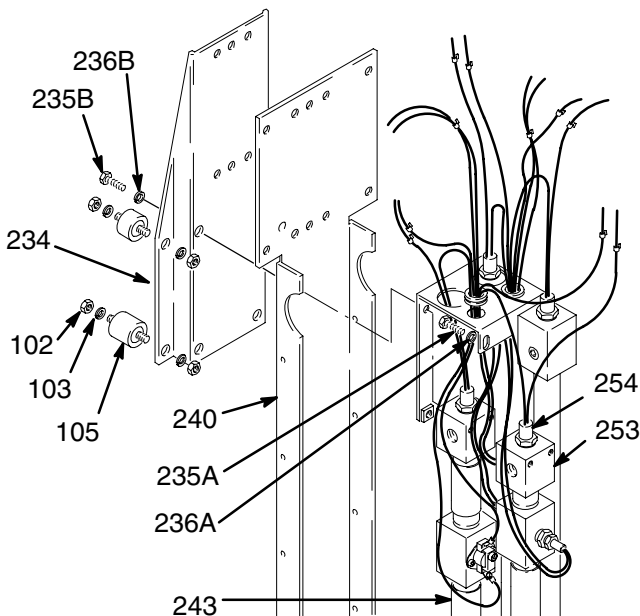
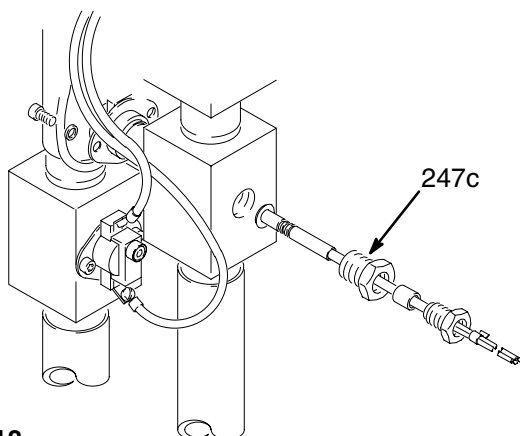
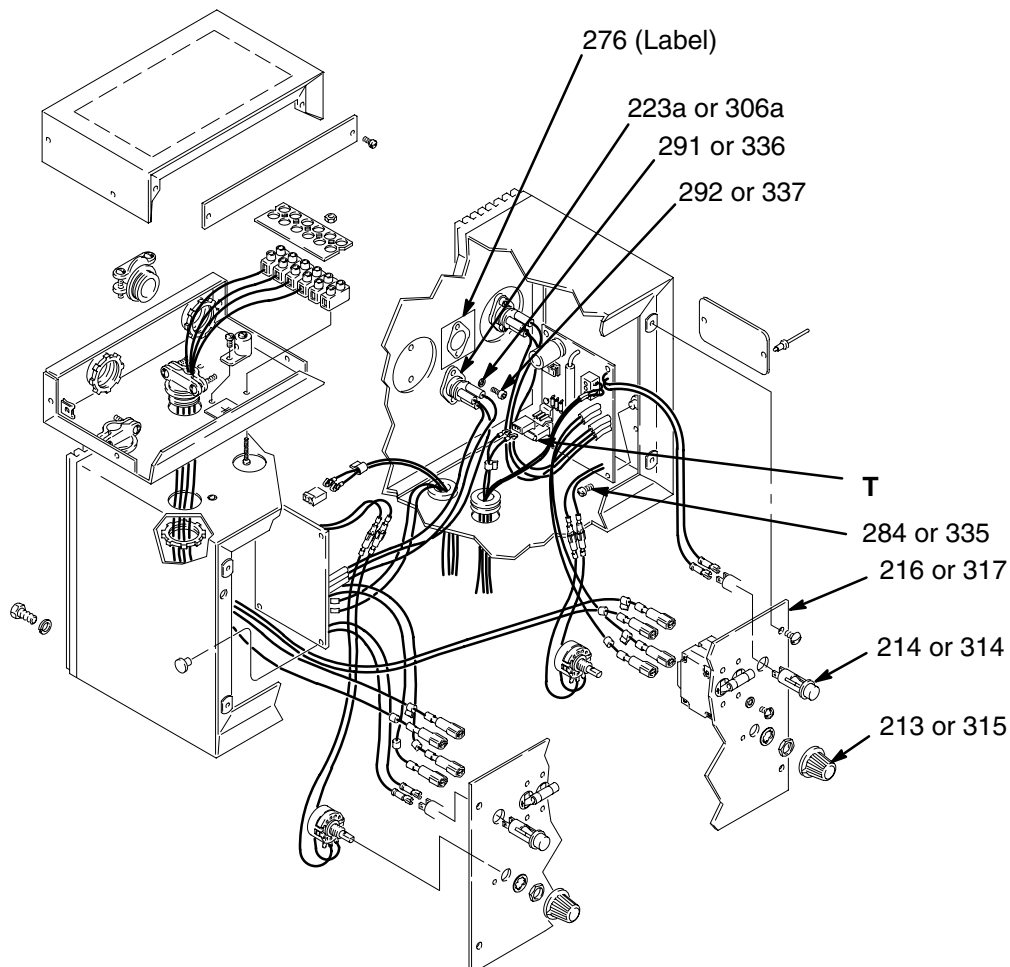

Fig. 17
Fig. 18
Fig. 20
NOTE: Refer to Fig. 17 except where noted.
3. Connect the control panel cover (216) to the control box with one screw to keep it out of the way. See Fig. 20, page 30.
4. Remove the front heater cover (238). See page 39. Disconnect the heating element wire from the thermostats.
6. Remove all four nuts (102) and lockwashers (103) from the side flanges of the heater mounting bracket (234). See Fig. 17.
9. From the back of the heater mounting bracket (234) remove the top screws (235B) and lockwasher (236B) only from the side of the heater you are working on.
10. Push the heater element tube (243) up slightly, tip the bottom of the tube out and away from the rear panel, and then pull it away from the heater. Keep the tube upright to avoid spilling any fluid left in the tube.
11. *If the front heater element is bad*, loosen the adapter (247c) one turn. Refer to Fig. 18. Unscrew the heater element and pull it out of the tube.
4. Unplug the wires of the indicator light (214 or 314) from behind the control panel (216 or 317). Unplug the wires from the triac (223a or 306a), noting the position of the wires. See Fig. 20 and 21.
7. Remove and keep the screws (284 and 335) from each corner of the circuit board. Remove the board. See Fig. 20.
1. Apply conductive paste (Graco P/N 110009) to the bottom flange of the triac (223a or 306a). Position the triac as shown in Fig. 20. Use the screws (291 or 336) and lockwashers (292 or 337) to mount the triac to the back of the control.
3. Plug in the triac wires, if not plugged in. See Fig. 13, page 25. Verify the triac wiring with the label (276) located inside the control box. See Fig. 20, page 30.
4. If used, plug the ATC connector (T) into the circuit board position J1. Otherwise, make sure the 2 pin connector is installed at J1 with the 47.5K resistor. See Fig. 20 and 21.
6. Plug the indicator light leads (214 or 314) into the rear of the indicator light. See Fig. 20 and 21.
7. Plug in the wires leading to the TEMP SET dial (213 or 315). See Fig. 20 and 21.
8. Plug the sensor probe connector P2 into the circuit board at position J2. See Fig. 20 and 21.